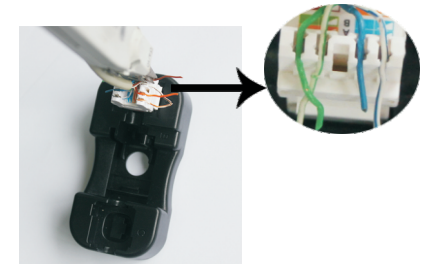

Figure 6- Cable with wires placed in pairs
2. Follow the order shown on the wiring sticker to place the cable wires into the Keystone Jack Punch IDC slot. Keep the Pairs twisted as much as possible. (Figure 6)